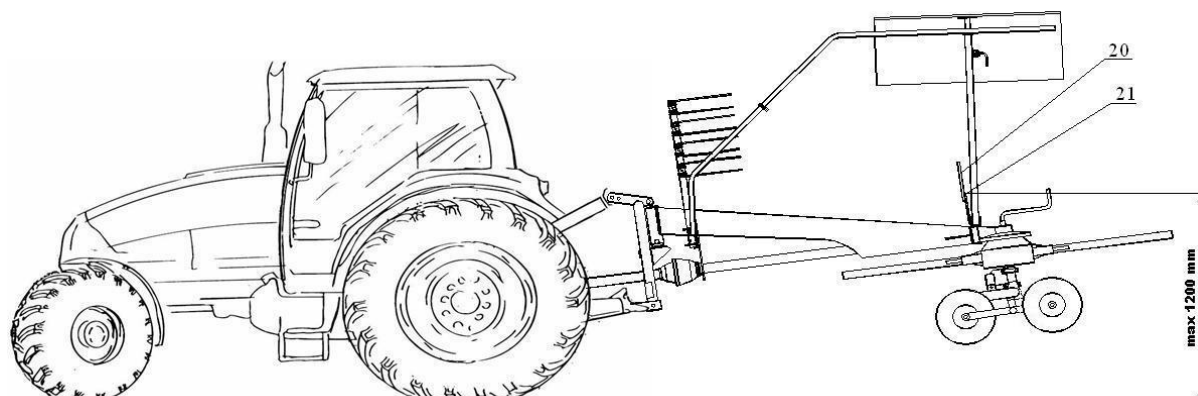

Fig. 11
Lift the hay rake suspended on the tractor to transporting position, as shown in figure 11, to such height that the distance of the upper edge of the light surface of the red reflective light from the road surface is max. 1200 mm.
- set the tractor's three-point linkage central link length in such way that the distance of upper light surface of the red reflective light 21 on figure 11 from the driving surface is max. 1200 mm after lifting the hay rake to transporting position.